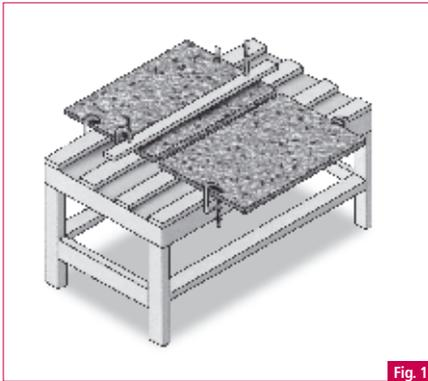

Fig. 1
- 9.2** Circular sawblades with triple chip teeth will provide the best possible result (Fig. 1). A standard \varnothing 300 mm saw blade should have 96 teeth and is best with a negative hook angle. (Fig. 2).